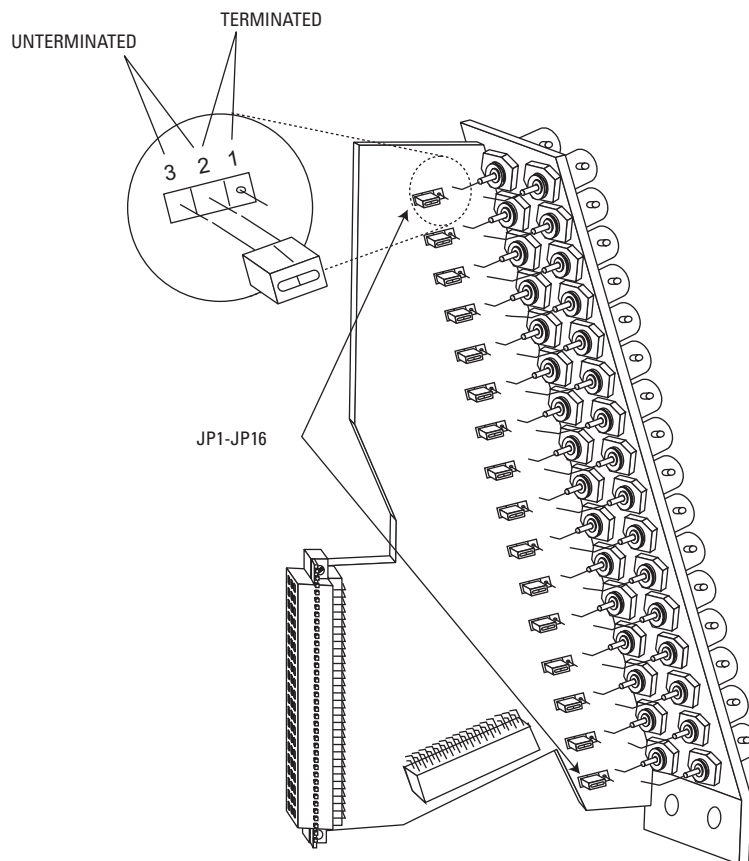

Figure 20. Termination Jumpers on CM9760-RPL Card
1. Set termination jumpers JP1-JP16 (refer to Figure 20) in the proper position: